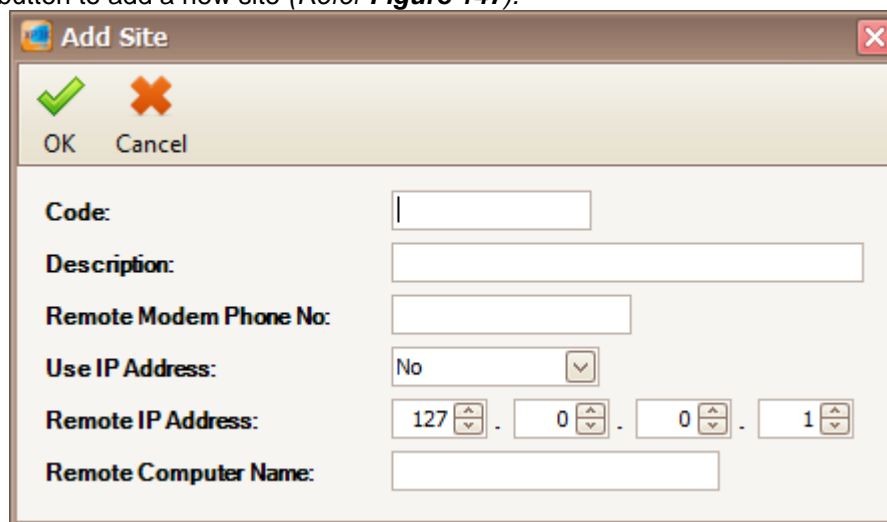

Figure 147 - Add Site
3. Click Add button to add a new site (Refer **Figure 147**).